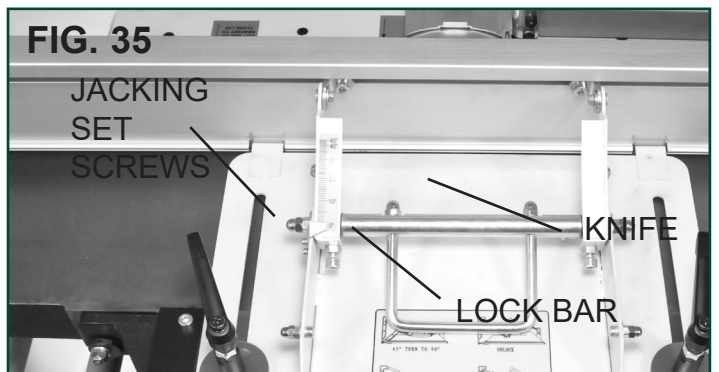

FIG. 35
3. Raise or lower the blade, as needed, with the Jacking Screws (#85) that are accessed from the top of the Lock bar. FIG. 35. Adjust the blade until it is accurately set for height at both sides of the block, and also in the middle.